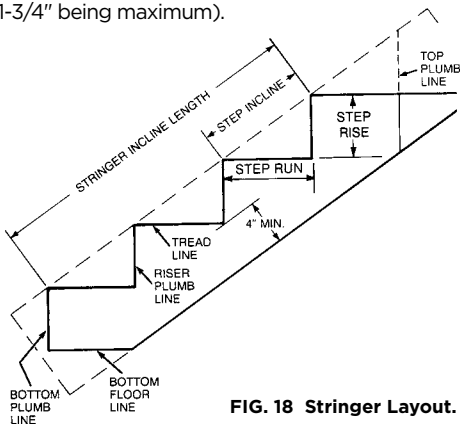

FIG. 18 Stringer Layout.
The ideal inch rise is 7 or 8 (or 30° to 35°) but may be from a 5-inch rise to a 14-inch rise depending on the circumstances. The step rise or run may be modified if the run becomes impractical or if the minimum head room is under 6 1/2 ft. Check the head room by measuring down along a plumb line dropped from the lowest ceiling point to where the tread beneath would be. To find the tread height, count the number of steps necessary to get under the plumb line and then multiply by the step rise. Another consideration is to have a minimum of 4" from the inside corner of the step to the bottom edge of the stringer (See Figure 18). A quick test is to use the square as you did for the common rafter top plumb cut (using the step inch rise) and make a plumb line the distance of the step rise, then measuring from the end of the plumb line directly to the edge of the stringer.
STEP 2. LAYOUT STRINGER: First, find the step incline length (see Figure 18) by using the following formula:
Now, draw the bottom plumb line using your inch rise on the common scale of the square, exactly as you did for the common rafter (see Figures 18 and 19). If you wish to conserve wood, adjust the bottom plumb line so that its length is equal to the step rise. Next draw the bottom floor line by measuring down the bottom plumb line the distance of the step rise minus the tread thickness. In our example, with a 1" tread; 7.29" minus 1.00" giving you 6.29", or 6 5/16". Use the square the same way as you did for the bird's mouth horizontal seat mark (See 7A & 7B and 19).
The outside step corners should now be marked off (again see Figure 18). Starting from the bottom plumb line, measure up along the top edge of the stringer the distance of a step incline. Repeat this for each step corner, until you've reached the stringer incline length. Make another step incline mark for a top plumb line.